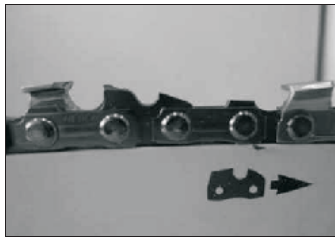

Fig 17A
- b) Place the new chain in the slot of the guide bar, making sure the saw teeth are facing the correct direction by matching the arrow on the guide bar (Fig 17A)
- c) Place the saw chain around the sprocket (16) with teeth cutting edges facing away from the drive sprocket along top edge of the guide bar. Meanwhile the chain tension knob (18) should be rotated clockwise to its stop to tension the saw chain. (Fig.17A/17B)